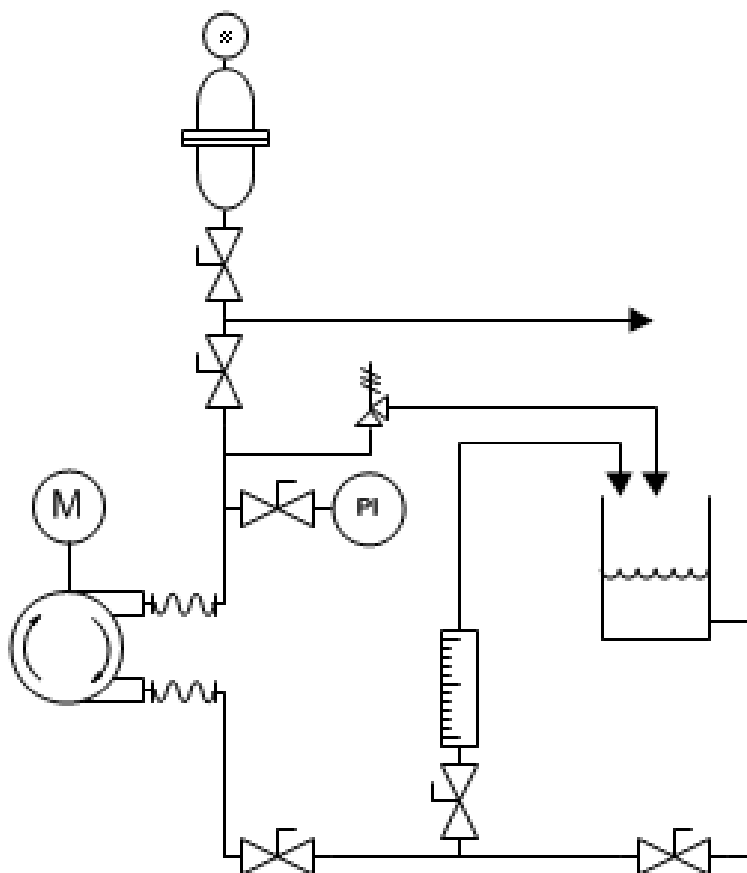

Figure 2- Pump P&ID
**Location:** Figure 2 depicts the typical discharge piping connections and equipment for a successful installation. Minimal pipe bends and straight pipe runs are ideal.